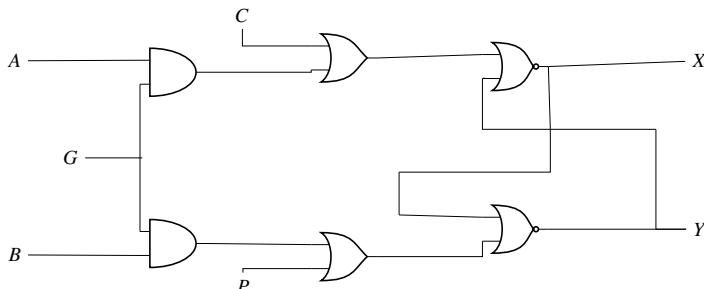

Fig. 5.27
30. For the fallowing circuit Fig. 5.27, the correct logic values for the entries  $X_2$  and  $Y_2$  in the truth table in Table 5.2 are (GATE PH 2019)